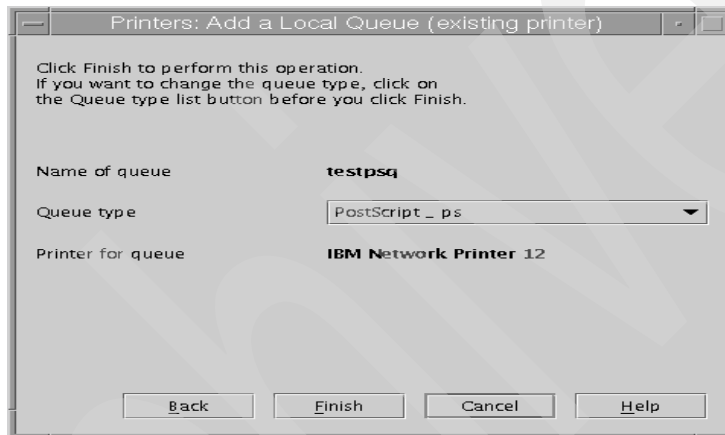

Figure 38. A confirmation notice for the second queue
17. Click **Finish** to finish to create PostScript queue, as shown in Figure 38.